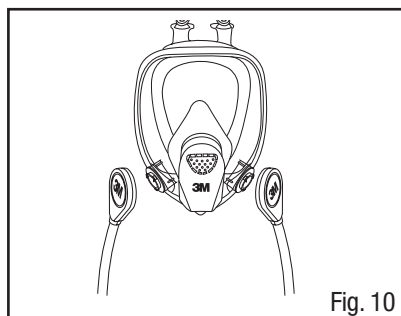

Fig. 10
1. Hold the facepiece in front of you so that the 3M logo is facing you. Align the two branches of the breathing tube over the two bayonet mounts on facepiece (Fig. 10). For 3M™ Breathing Tubes SA-1500 or SA-1600, make sure that 3M logo on breathing tube and on facepiece are both facing towards you. For 3M™ Breathing Tubes SA-2500 or SA-2600, make sure that the 3M logo on breathing tube is facing in opposite direction to 3M logo on facepiece.